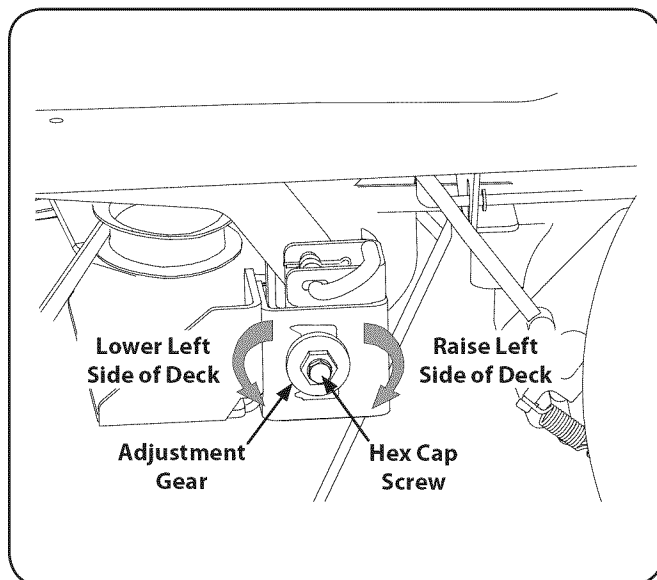

Figure 6-7
5. Loosen, but do not remove, the hex cap screw on the left deck hanger bracket. See Fig. 6-7.
6. Level the deck by using a wrench to turn the adjustment gear (found immediately behind the hex cap screw just loosened) clockwise to raise the left side of the deck, or counterclockwise to lower the left side of the deck. See Fig. 6-7.